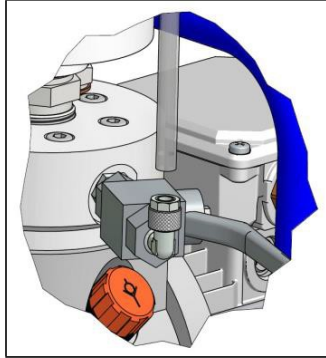

Fig.10.1.1
3. (Fig.10.1.1) Dismantle the discharge hose by unscrewing the nut of the elbow connector.